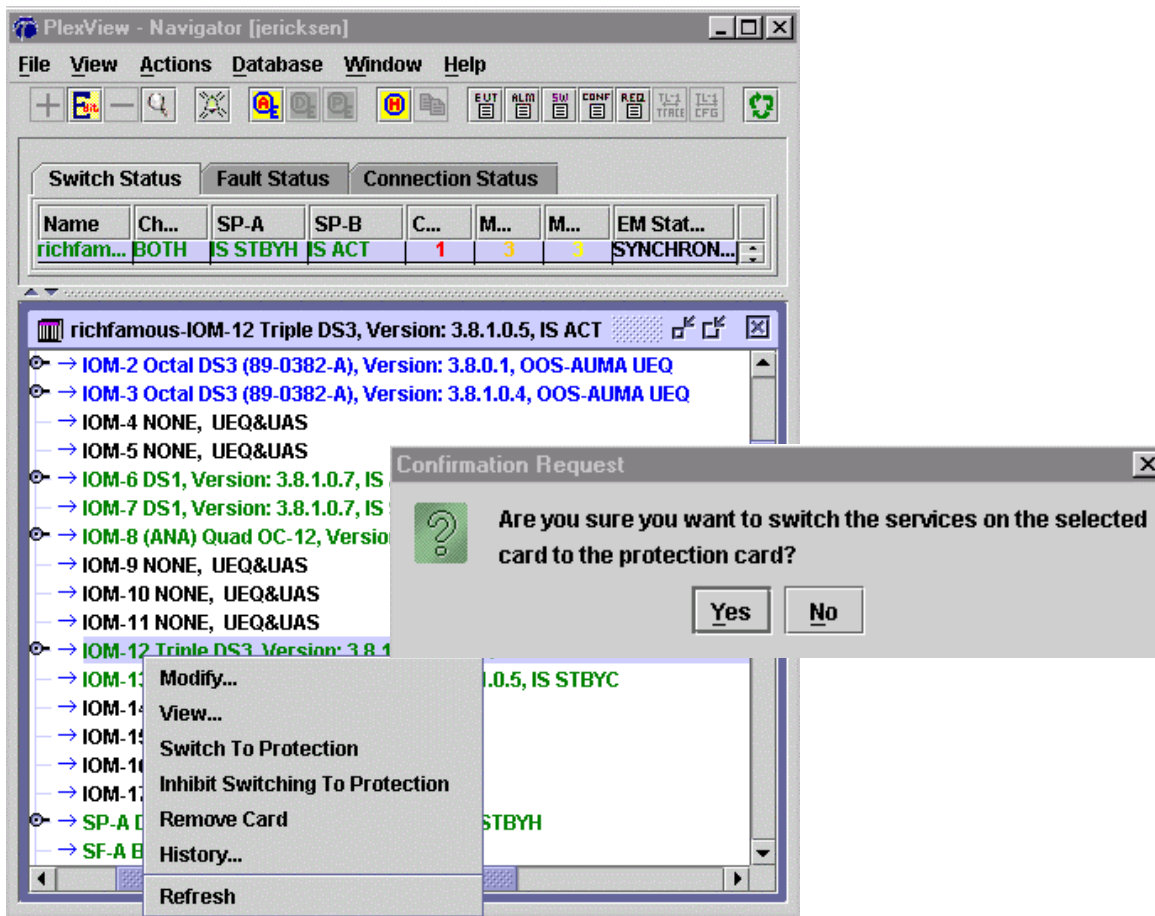

Figure 6. Switch to Protection
29. Double-click the switch to select it for the main panel and then double-click *Cards*. Right-click the desired IOM, select *Modify* and then select *Switch to Protection*. A confirmation screen will appear. Select *Yes* to switch to protection. Refer to Figure 6.